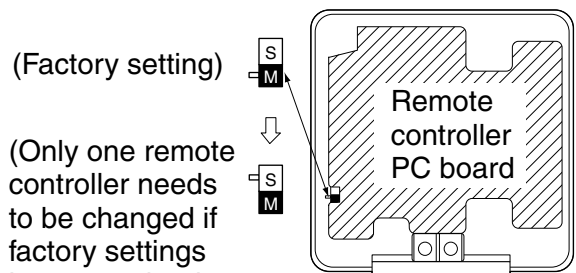

Fig. 27
- (2) Turn the **main/sub changeover** switch on one of the two remote controller PC boards to “S”. (Leave the switch of the other remote controller set to “M”.) (Refer to Fig. 27)